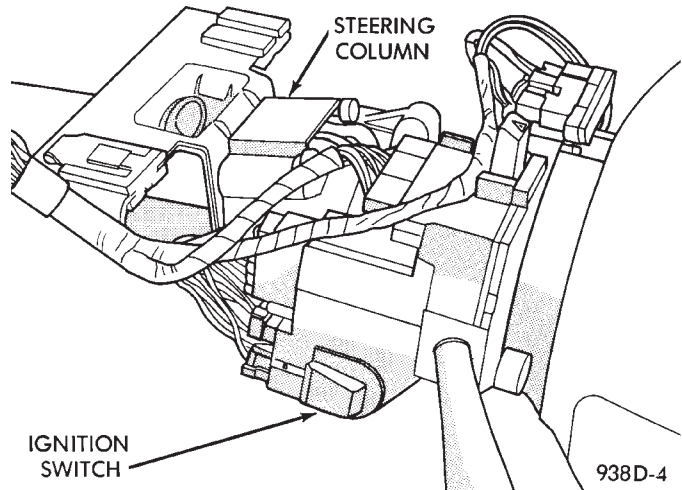

Fig. 39 Ignition Switch Removal/Installation
- (1) Disconnect negative cable from battery.
- (2) Remove tilt lever attaching screw. Remove lever.
- (3) Remove upper and lower cover from steering column.
- (4) Remove Sentry Key Immobilizer Module (SKIM) if equipped refer to Group 8Q Power Door Locks for removal.
- (5) Remove multi-function switch.
- (6) Disconnect electrical connector from ignition switch (Fig. 39).
- (7) Remove Ignition switch mounting screws. Remove switch.